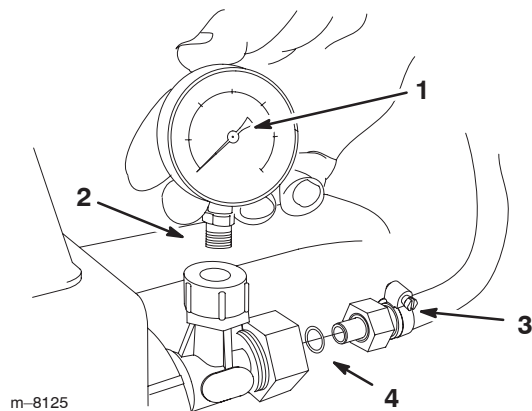

Figure 13
13. Wrap Teflon tape counterclockwise around the threads of the gauge (Fig. 13).
14. Install the pressure gauge into the open port to the right of the control valve (Fig. 13).
15. Locate the O-ring in loose parts and lubricate it using a non-petroleum based lubricant such as vegetable oil. Install the O-ring between the long hose and control valve assembly. (Fig. 13).